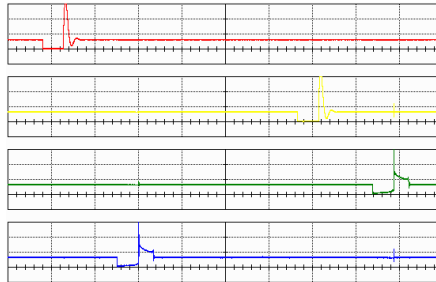

Figure 4.40
- *4 grids*: Every channel is displayed in it's own window (Figure 4.40).